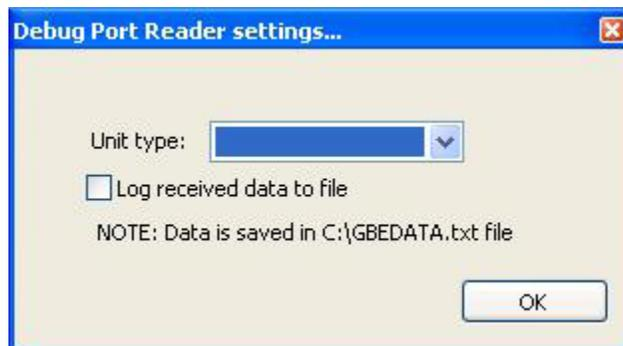

Figure 21. DebugPortReader settings dialog box.
1. Double-click on the filename “DebugPortReader_win64” to start the program. This will open a dialog box on the PC: see Figure 21.